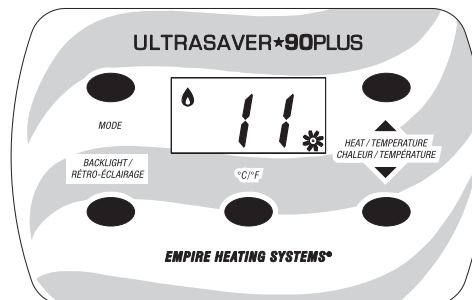

Figure 16 - Heat Levels 1 and 2, Blower Speed 1
- The blower will activate after 45 to 70 seconds depending on heat level. The blower will automatically adjust its speed to match the heat level. The blower speed will be indicated on the display panel. **See Figures 16 to 19.**
The circulating air blower is operated by a built in timer. The blower will activate after approximately 45 to 70 seconds depending on heat level. The blower will automatically adjust its speed to match the heat level. The blower icon and speed are indicated on the display panel. **See Figures 16 to 19.**